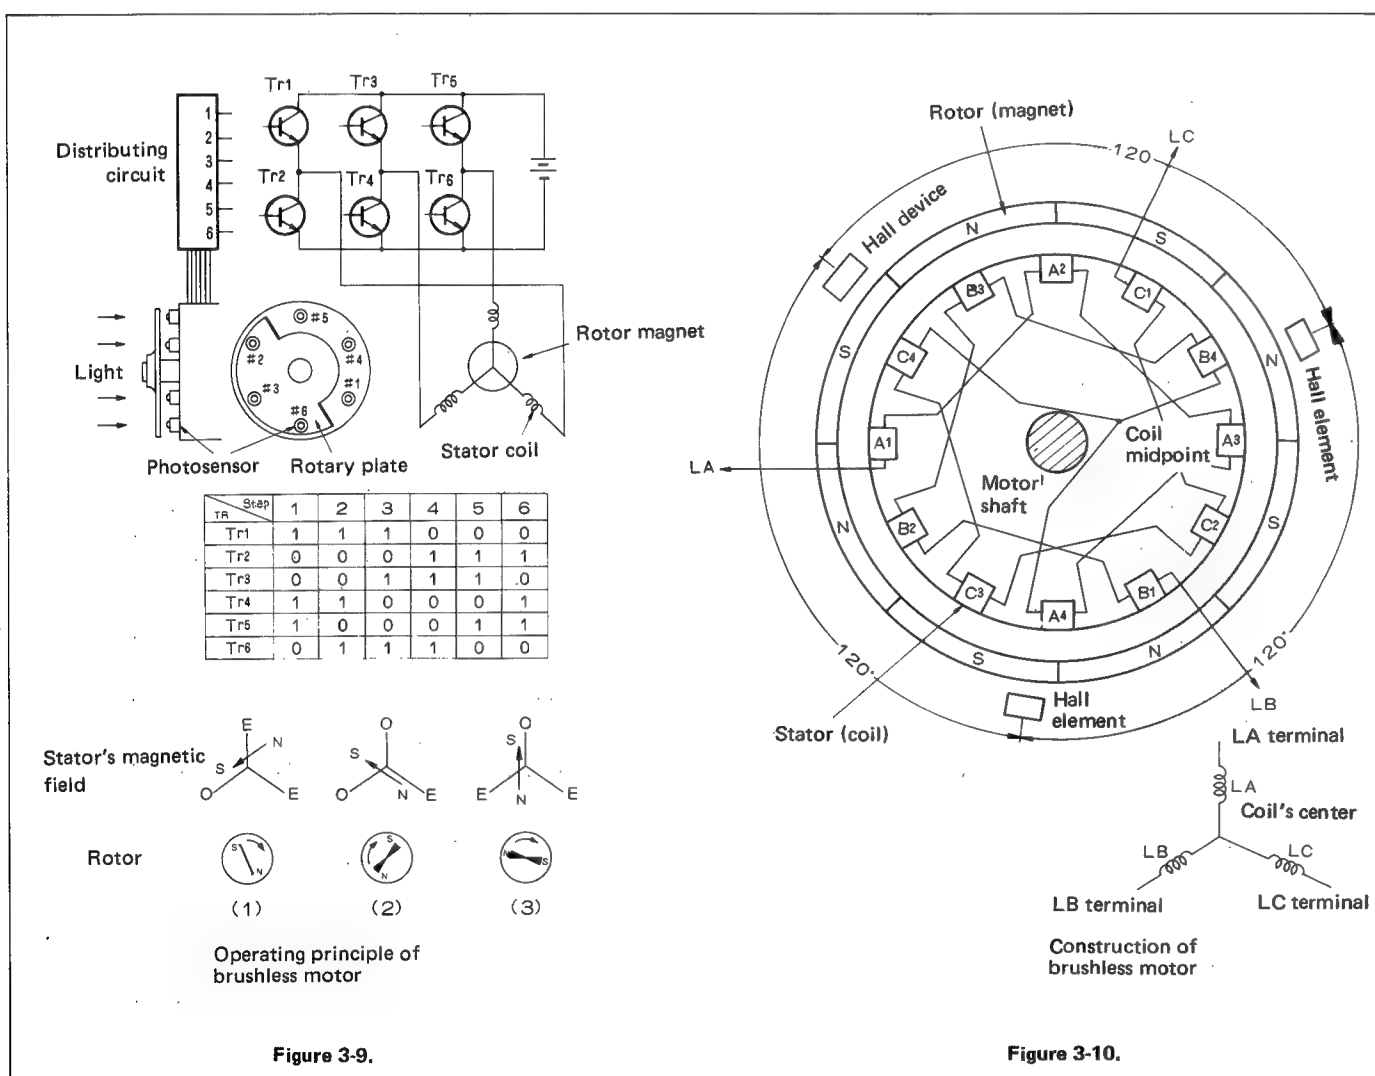

Figure 3-9.
The brushless motor comprises a permanent magnet which serves as the rotor and a coil as the stator. Figure 3-9 shows how the brushless motor operates. The position of the rotor is detected photoelectrically here: six photosensors are fitted to the rotor in equal intervals. A plate fixed to the rotor shaft rotates in between the light source and the photosensors. The position of the rotor can be found by identifying the sensors which are receiving light. Transistors associated with the sensors which are receiving light (the transistors and sensors are given the same number) turn on. Since Tr1, 4, and 5 are on at this time, the magnetic field of the stator develops in the direction of (1). The rotor rotates in the direction of arrow to align its own magnetic field with that of the stator.